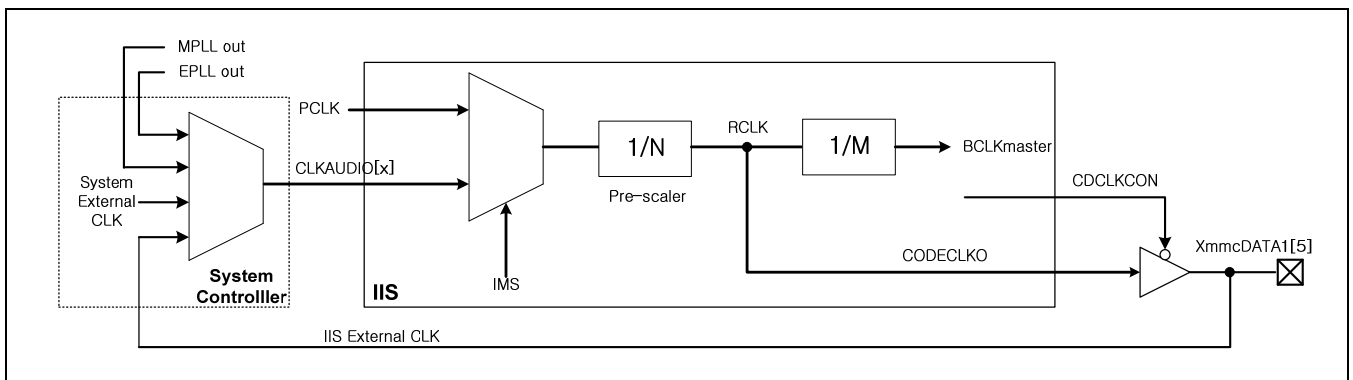

Figure 41-2. IIS Clock Control Block Diagram
Figure 41-2 shows the route of the I2SCDCLK with internal master or external master mode setting in IIS clock control block and system controller. Note that RCLK indicates root clock and this clock can be supplied to external IIS codec chip at internal master mode.
2. You must select a clock source. 6410 has five clock sources. Those are MPLL, EPLL, PCLK, system external clock and IIS external clock. For more information please refer to Figure 41-2.